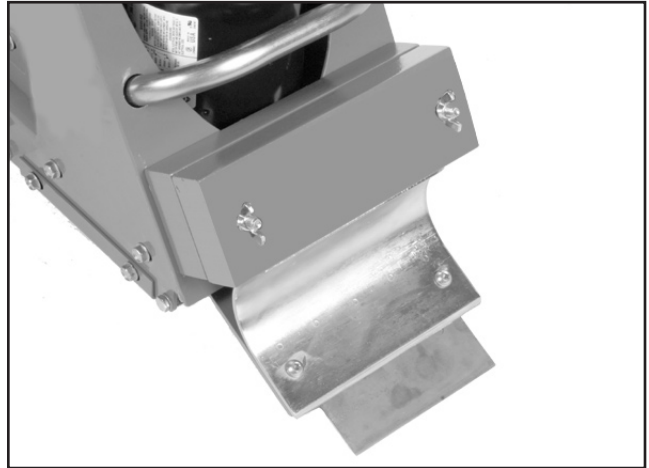
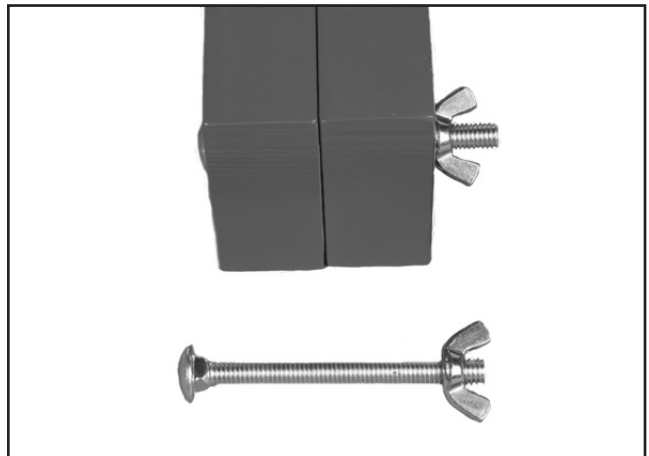

FIGURE 21
FIGURE 22
2) Productivity rates with the various blade and/or attachments can be increased with the addition of external weight being applied to the front of the machine. FIGURE 21. Each external weight block weighs 14 lbs (6.3 kg). Maximum allowable external weight permits the use of three blocks or 42 lbs (19 kg). Exceeding this figure can result in permanent structural damage to the Floor Stripper. The additional external weight blocks can be secured to the machine with the use of longer length carriage bolts. FIGURE 22.